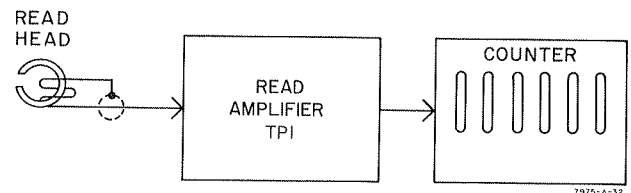

Figure 5-1. Tape Speed Test Setup
a. Install transport test tape (without write enable ring) on tape unit. Connect test equipment as shown in figure 5-1. Set counter gate time to 1 second.